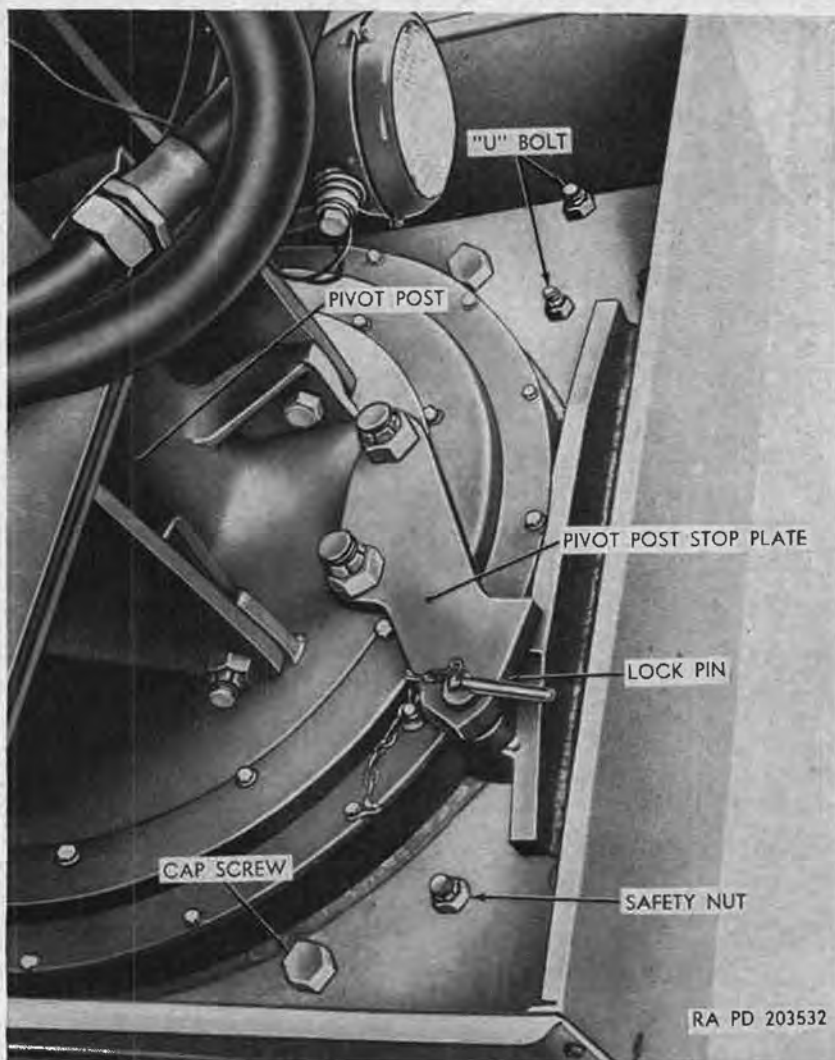

Figure 84. Lower section of crane pivot post and base plate (M246)—left rear view.
- (2) *Pivot post and boom assembly.*
- (a) The pivot post (fig. 84) and boom assembly is rotated 360° by a vane-type hydraulic motor (fig. 85) in conjunction with a worm and gear reducer geared to the base of the
pivot post. A removable stop plate (fig. 84) is normally used to limit the amount of boom rotation to 270° . A lock-pin (fig. 84), which can be inserted through a hole in the stop plate and into a hole in the crane base plate, is provided for locking the crane for transporting.
- (1) *Preliminary procedures.*
- (d) Remove the pivot post lockpin (fig. 84).
- (1) *Without fifth wheel trailer.* To secure the wrecker crane for traveling without fifth wheel trailer, center the shipper and boom assembly horizontally, with the boom fully retracted, over the rear of the truck. Insert the pivot post lockpin (fig. 84) to stabilize the crane revolving structure and relieve the load on the swing drive gear train. Rig the shipper supports (c(2) above). Secure the lifting sling (fig. 86) to the cable hook and to the front outrigger frame tube. Raise the cable hook as necessary to remove all slack from the lifting sling. Move the power-take-off control lever (fig. 68) down as far as it will go to the DISENGAGED position. Release the throttle control (par. 18).